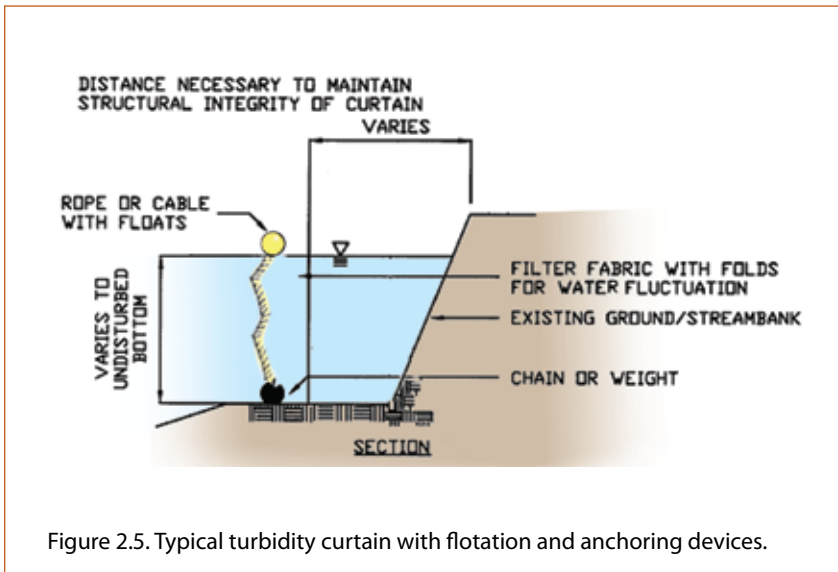

Figure 2.5. Typical turbidity curtain with flotation and anchoring devices.
- Locate around perimeter of construction site and firmly anchor in place. Place shoreline anchors outside of areas to be disturbed by construction equipment (Figure 2.5).